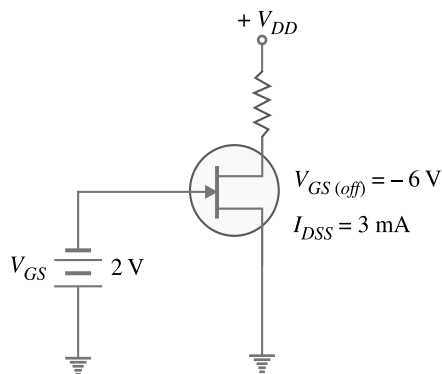

Fig. 17.20
**Example 17.6.** Determine the value of drain current for the circuit shown in Fig. 17.20.
**Solution.** It is clear from Fig. 17.20 that  $V_{GS} = -2\text{V}$ . The drain current for the circuit is given by ;